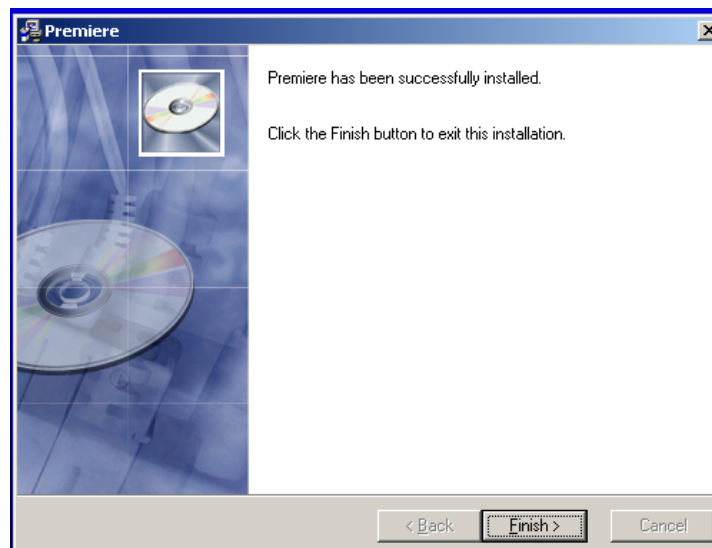

FIGURE 41: Installation Successful Screen
8. Once the installation of the files has been completed, the following screen is displayed (see Figure 41). Click on Finish to complete the installation process.